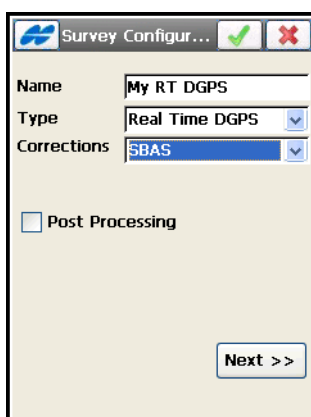

Figure 3-4. Survey - Real Time DGPS
The *Survey Configuration* screen (Figure 3-4 on page 3-7) contains general settings for the configuration.
- *Corrections* – available only in a Network RTK (select either *VRS*, *MAC*, *FKP*, *Single Base* or *External Config*), Network DGPS, or Real Time DGPS configuration (select the service to receive differential correction data (either a *User Base*, *Beacon*, *SBAS*, *CDGPS*, *OmniSTAR-VBS*, or *OmniSTAR-HP* (Figure 3-4 on page 3-7)).